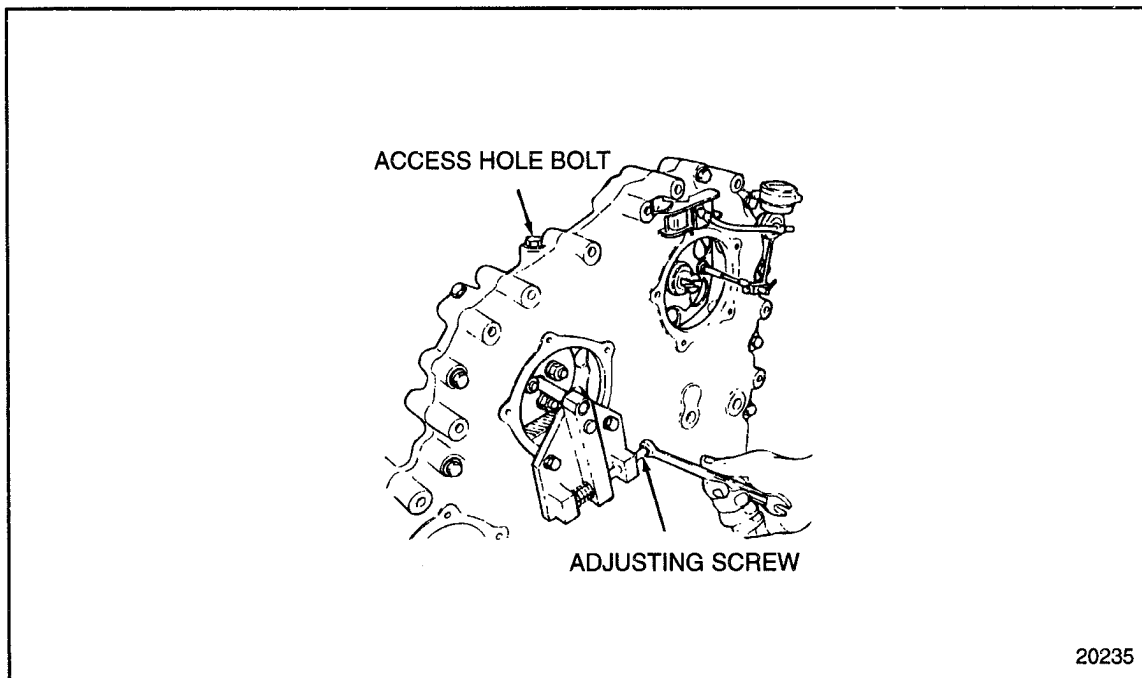

FIGURE 1-257 Adjustable Idler Gear-to-Camshaft Drive Gear Lash Adjustment
- [g] Turn the adjusting screw of the tool in a clockwise direction to force the adjustable idler gear against the camshaft drive gear, until there is zero lash between the two gears. See Figure 1-257.